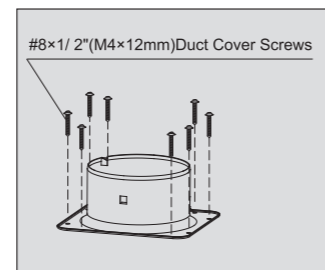

Figure 3
- Refer to Fig 3, use eight  $\#8 \times \frac{1}{2}$ " (M4 $\times$ 12mm) Duct Cover Screws to fix the exhaust cover and upper seal mat on the top of complete appliance.